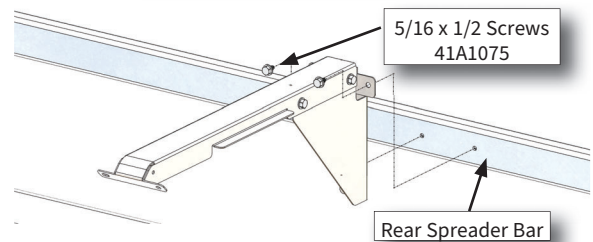

Figure 32: Position of Spreader Bar & Gusset
3. The upper spreader bars will have holes pre-drilled for mounting the top spreader bar supports. Position the top spreader bar stiffener and gusset as shown (Figure 32), and bolt only to the rear upper spreader bar (nearest wall) using (2) 41A1075 screws. Partially tighten screws.